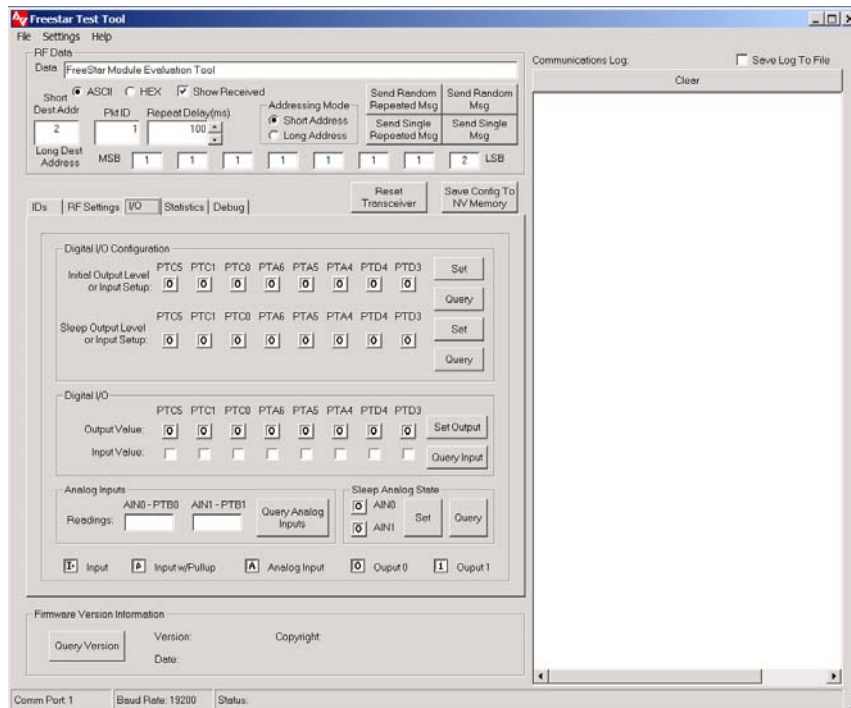

Figure 4-4. I/O Settings
4.2.4 I/O Settings (See Figure 4-4)
The I/O page can be selected by clicking the I/O tab in the software. This is shown in Figure 4-4. The I/O page can be used to setup select digital and analog pins for desired operation.